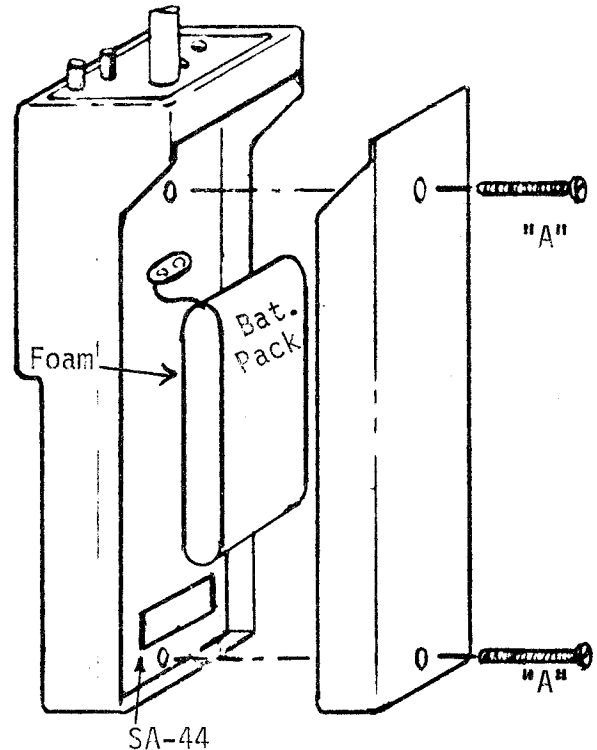

Figure 2-1. Unit Rear View
Remove plastic BACK cover from transceiver in order to install batteries. This cover is easily removed as follows (See Figure 2-1):
2. Remove two #4-40 x 1" pan-head machine screws which secure back cover to transceiver (item "A" Fig. 2-1).